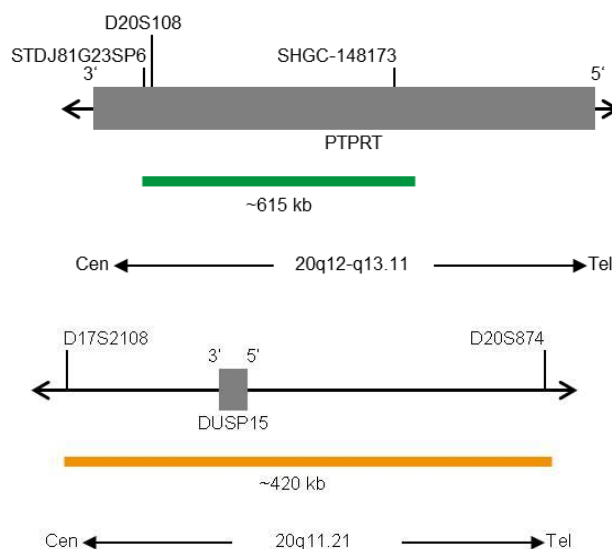

Fig. 1: Top: SPEC PTPRT Probe map (not to scale), Bottom: SPEC 20q11 Probe map (not to scale).
- ZyGreen (excitation 503 nm/emission 528 nm) labeled polynucleotides (~10 ng/ μ l), which target sequences mapping in 20q12* (chr20:40,807,040-41,419,634) harboring the PTPRT gene region (see Fig. 1).
- ZyOrange (excitation 547 nm/emission 572 nm) labeled polynucleotides (~4.5 ng/ μ l), which target sequences mapping in 20q11.21* (chr20:30,301,019-30,719,110) (see Fig. 1).